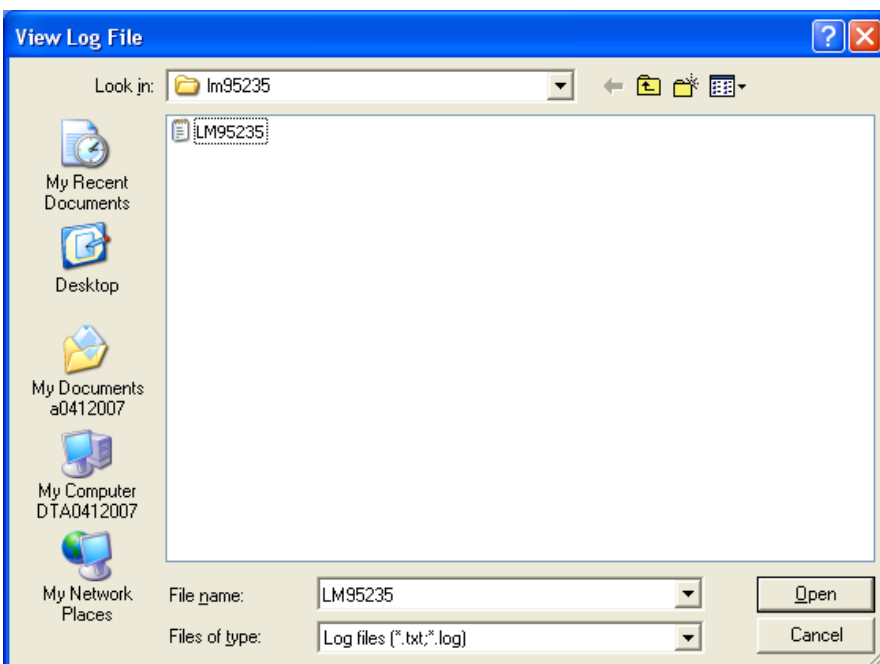

Figure 12
17. At the same time you can also press the “Start Log” button to capture temperature data in a log file. Press the “Stop Log” button to stop data logging and capture the file. Press the “File” then “View Log” in the pull down menu to see the log file as shown in Figure 12 below.